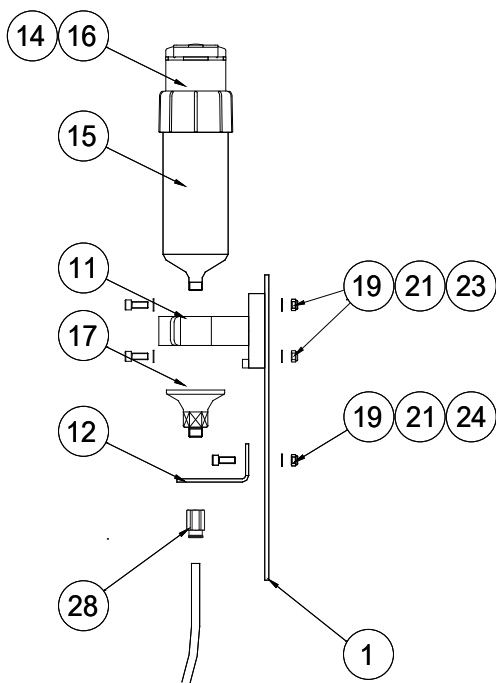

figure 6
- Mount the drive LC unit on the mounting plate (No. 1) with the brackets and fixings provided (figure 6) and attach to a suitable rigid structure ensuring that the distance can accommodate the 2.5 meter long twin tube.